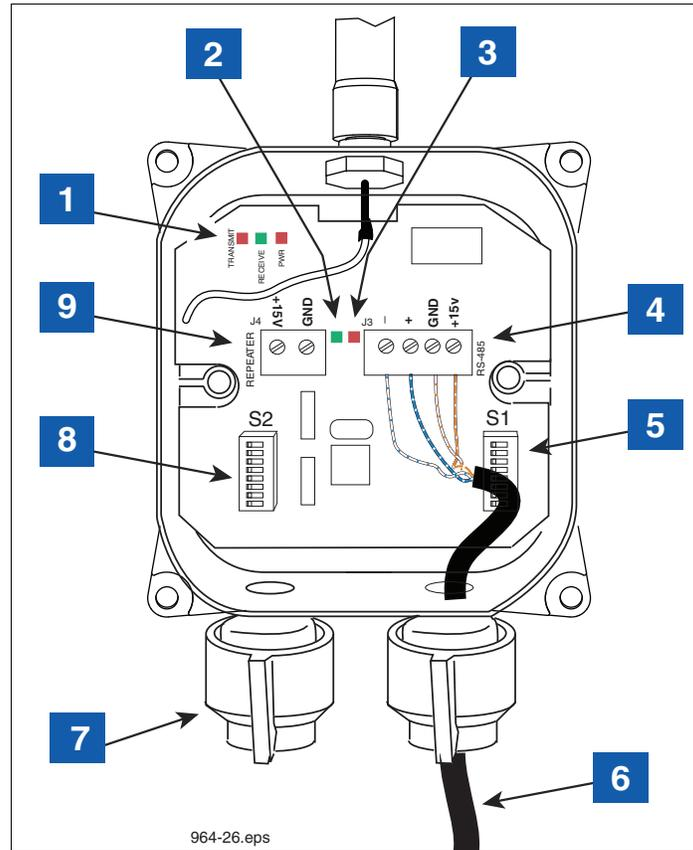

Figure 18. Wiring the Receiver
6. Note that there are two twisted pair color-coded wires in the cable (e.g., a white with blue stripe and blue with white stripe pair and a white with orange stripe and orange with white stripe pair). One of the pairs is for RS-485 communication (- & + terminals) and the other pair is for Receiver power (+15 Vdc & Gnd). Using Figure 18 as a guide, attach the wires of the two twisted pairs to the RS-485 terminals.
8. If a Repeater is used and powered by the Receiver, push the two wire power cable (to Repeater) through the +15 Vdc cord grip of the Receiver (item 7 in Figure 18).
10. Attach the dc power cable (white to +15 Vdc and black to GND) to the Repeater terminal block (item 9 in Figure 18).
LEGEND FOR NUMBERED BOXES IN Figure 18
1. Use of a single repeater is optional but may improve system performance when installed correctly. The Repeater should be located closer to the device transmitters to rebroadcast messages to the Receiver. Use the 15 Vdc power source provided in the Receiver to power the Repeater, or use a customer supplied non-interruptible, Class 2, 15 Vdc power source. The most common method of powering the Repeater power is to use the Repeater power terminal block J4 in the Receiver (see item 9 in Figure 18).
9. The other end of the Repeater's dc power cable connects to the Receiver's +15 Vdc output terminal (ref. item 9 in Figure 18), or to a non-interruptible, Class 2, 15 Vdc power source.